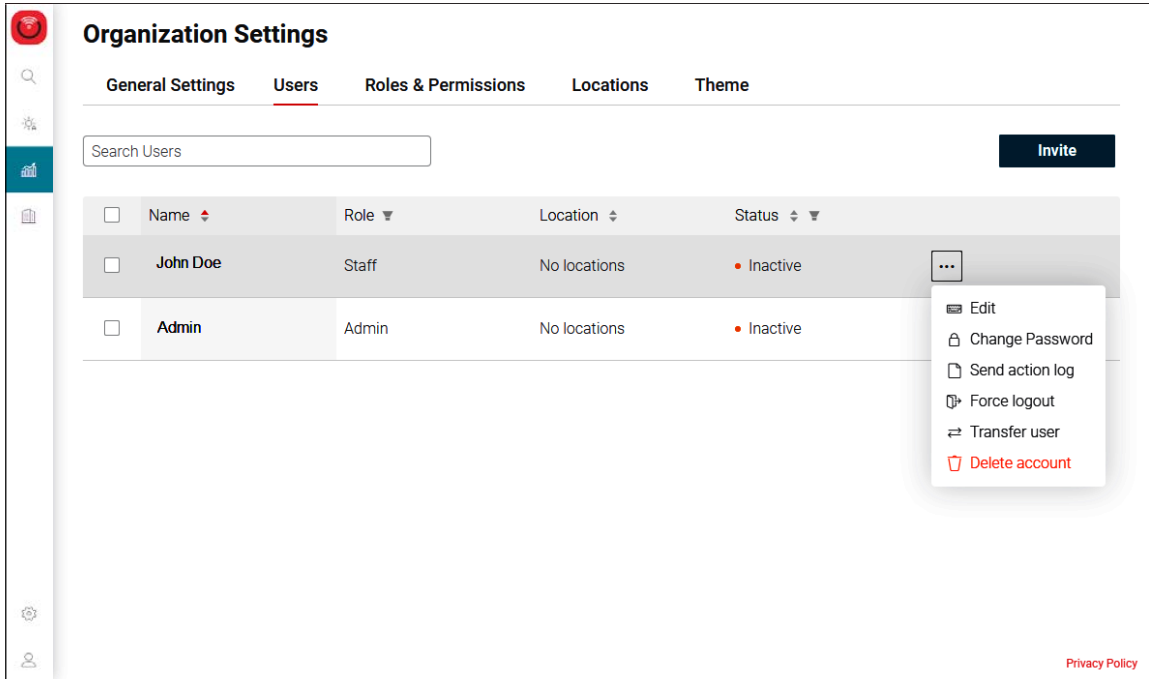

Figure 60. User Setting Menu
3. Click on the “Settings” option (gear icon) located at the bottom of the left bar and select “Users” on the top menu. See **Figure 60**.